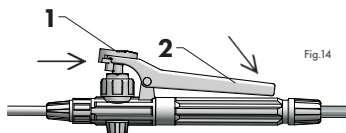

Fig.14
The lock on the handle lever (fig. 14/pos. 1) allows for continuous spraying. In order to lock the handle, press the lever (fig. 14/pos. 2) and slide the lock (fig. 14/pos. 1) as shown in the figure below. To unlock, slide the lock (fig. 13/pos. 1) in the opposite direction.